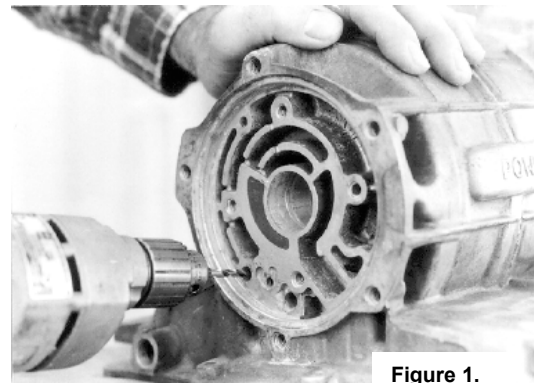

Figure 1.
1. It is necessary to drill the reverse passage using a 5/16" drill. Drill all the way through the case as shown (Figure 1.)